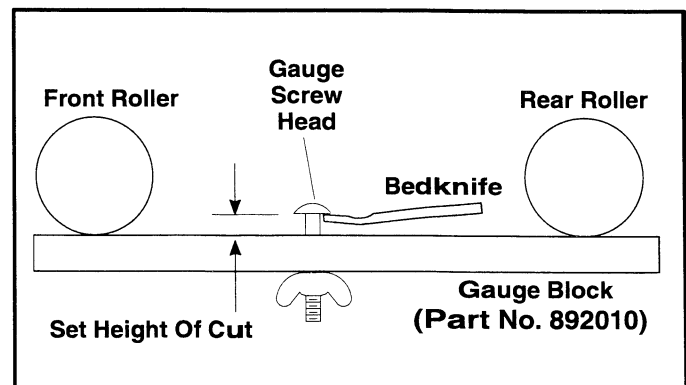

Figure 16
1. Set the height of cut on the gauge block (Part No. 892010) by turning the wingnut until the distance between the bottom of the screw head and the top of the gauge block equals the desired height of cut (See Fig. 16).
3. Hold the gauge block across the bottom of both the front and rear rollers near the roller adjustment bracket and adjust the front roller until the cutting edge of the bedknife comes up to touch the bottom of the gauge screw head (See Fig. 16).